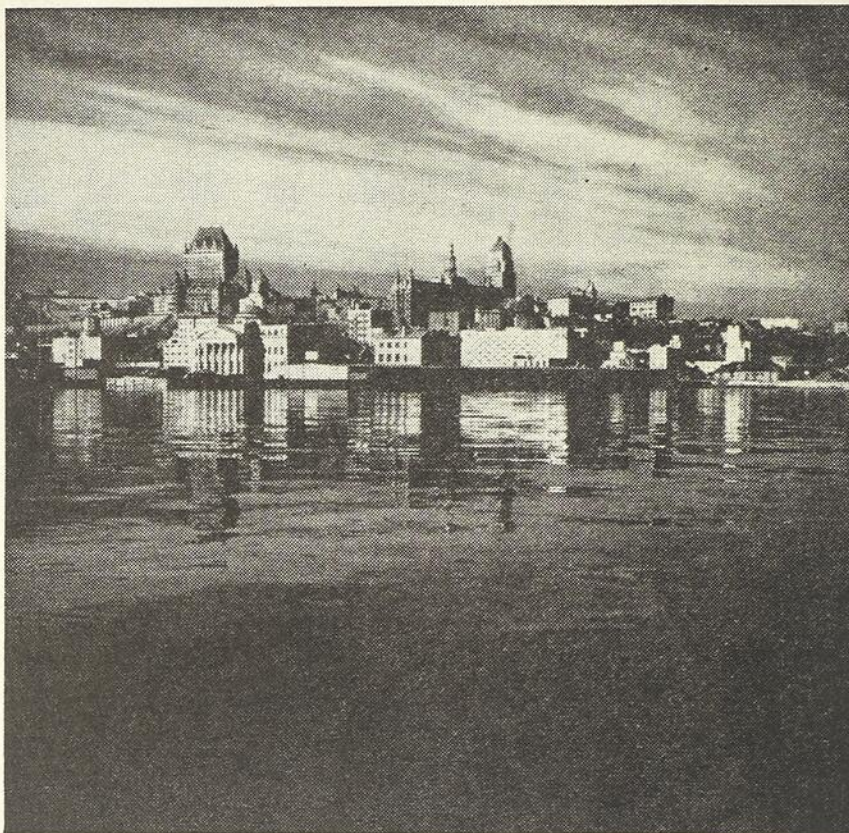

Fig.2—Québec vu
The entire rebalancing action of the Continuous Balance system is based upon the timing relationship between the alternating voltage formed by the converter and the AC supply voltage wave. This timing depends upon the direction of unbalance in the potentiometer circuit. For example, when the measured temperature rises above the temperature at which the potentiometer circuit is in balance, the EMF of the thermocouple will cause a difference in potential across AA in figure 1 having a polarity as shown. For this condition the converter will induce in the input transformer secondary an alternating voltage wave whose positive areas correspond with the positive area of the AC supply voltage, as shown in figure 2 (a) and (b). When this timing relationship exists, the voltage produced is said to be in phase with the supply voltage.
If, on the other hand, the temperature falls below the temperature at which the potentiometer is in balance, the polarity across "A" will be reversed. Because the converter is synchronized with the AC supply voltage, the alternating voltage wave will have its positive and negative areas reversed, as shown in figure 2.
In the continuous balance unit, the induced alternating signal from the input transformer is increased in amplitude and power by the use of thermionic vacuum tubes. In transmitting this signal to the balancing motor these tubes maintain its timing relationship with the AC supply voltage wave to provide the proper direction of rotation to the balancing motor. In effect, the voltage wave from the final stage of amplification has the same wave-form (C) in figure 2. A simplified version of the amplifier is shown in figure 3.
The direction of rotation is caused by the phase relationship of the two separate circuits (two phase motor) in the stator windings i.e. when one phase leads or lags behind the other. At a moment of unbalance, the current curve in the first winding of the stator is similar to figure 2-A. In the second winding the current curve lags by  $180^\circ$  as in figure "C". The result is rotation in one direction. If unbalance occurs in the opposite direction, the curve in figure "C" will lead the curve in figure "A" by  $180^\circ$  and rotation is in the opposite direction.